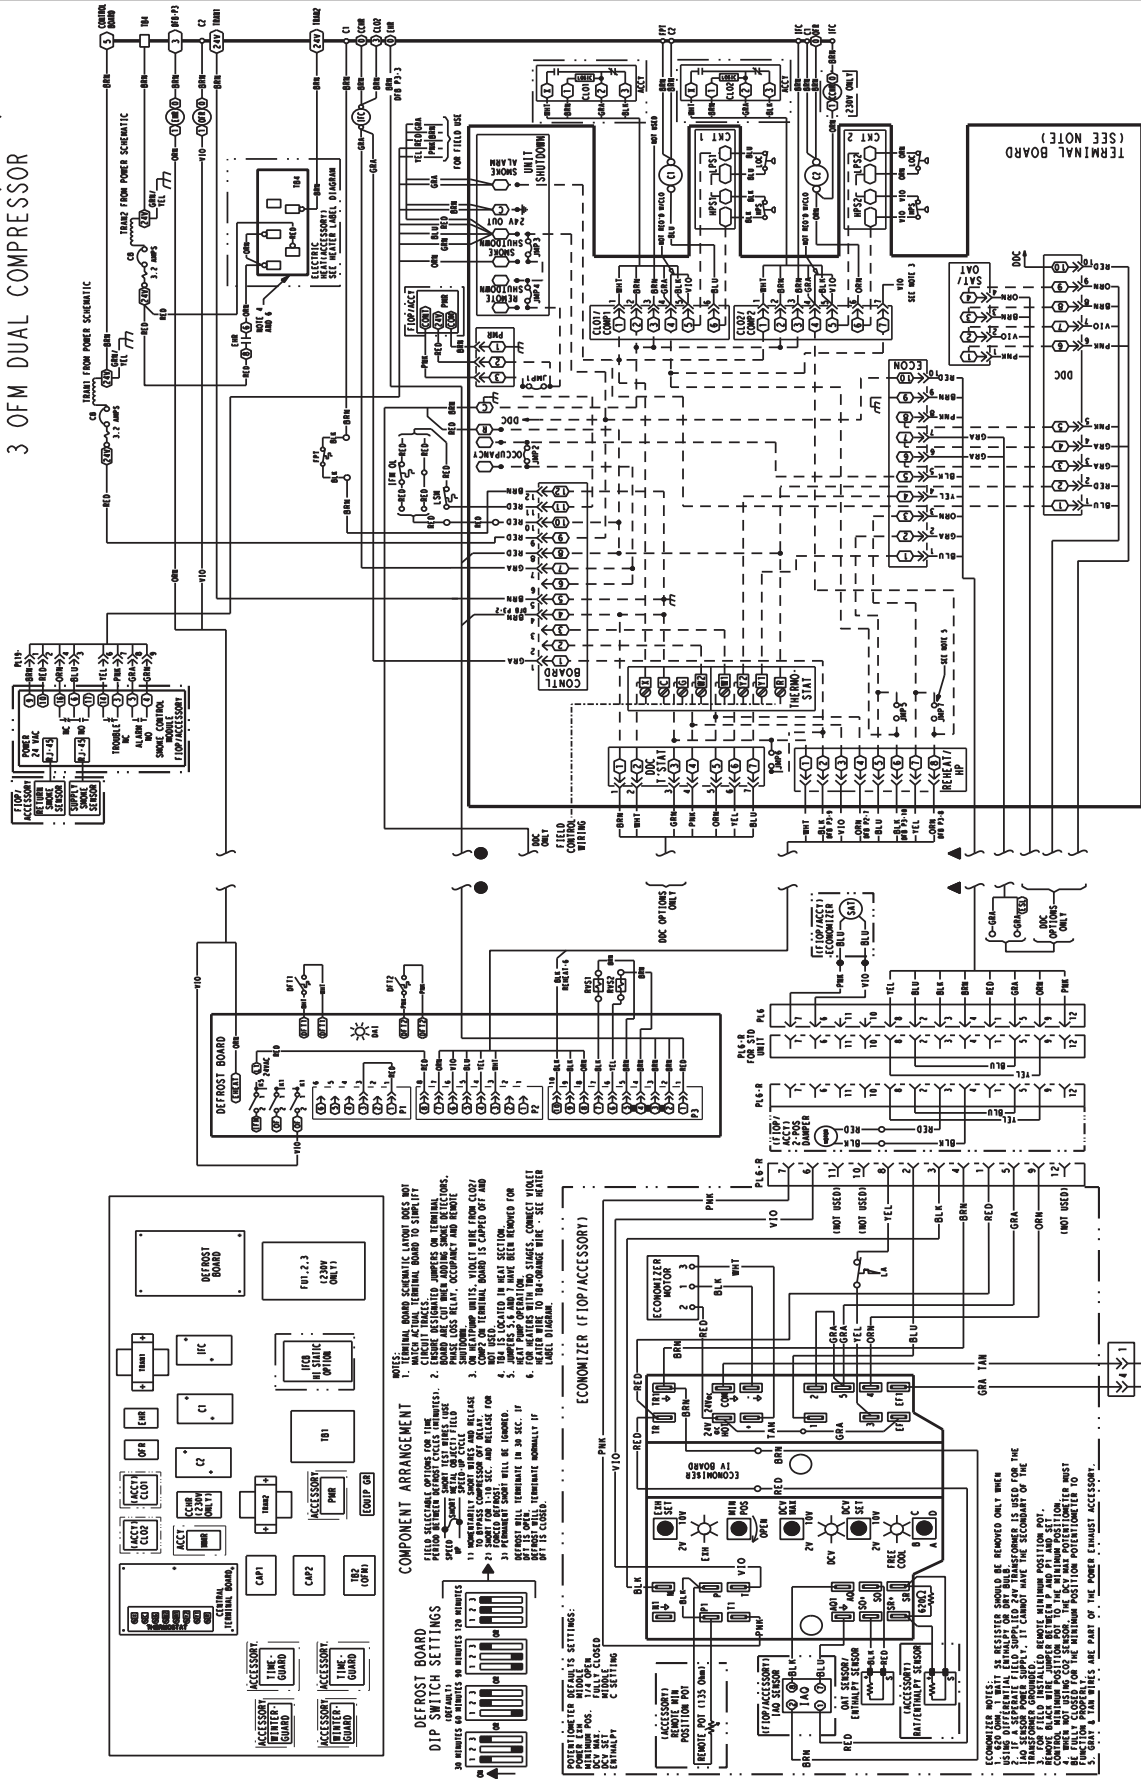

Fig. 8 - Control Box Layout
3. Connect each wire of all three motors as indicated on the unit schematic located on the back of the control box cover. Refer to Fig. 8 for all component locations within the control box throughout these instructions.